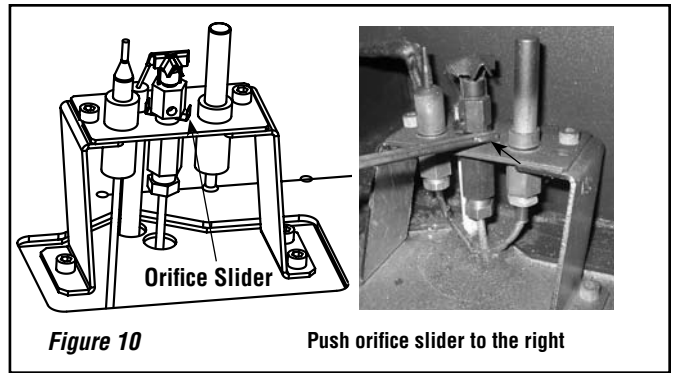

Figure 10
Step 10. Slide the pilot orifice into the LP position by pushing it toward the opposite side of the pilot stem. The top side of the orifice slider needs to read LP (see **Figure 10**).